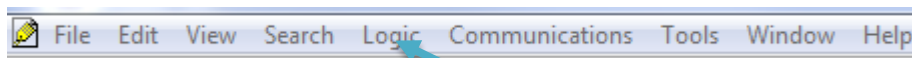

Figure 12: Logic in top menu banner
2. Go to Logic then Map PLC/SLC Messages. See Figures 12 & 13.